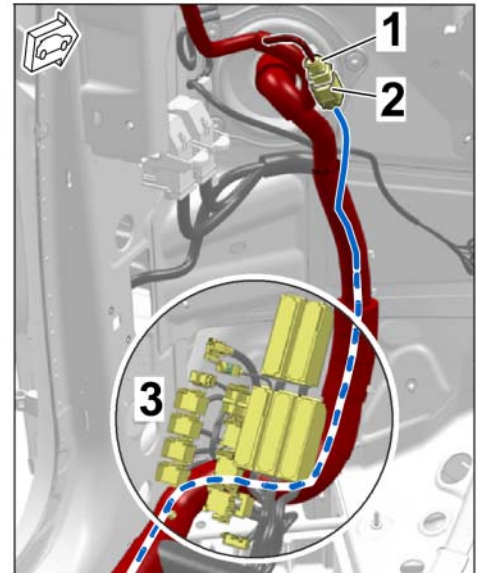

Figure 17
3.2.1 A-pillar area, left (⇒ *Figure 17*)